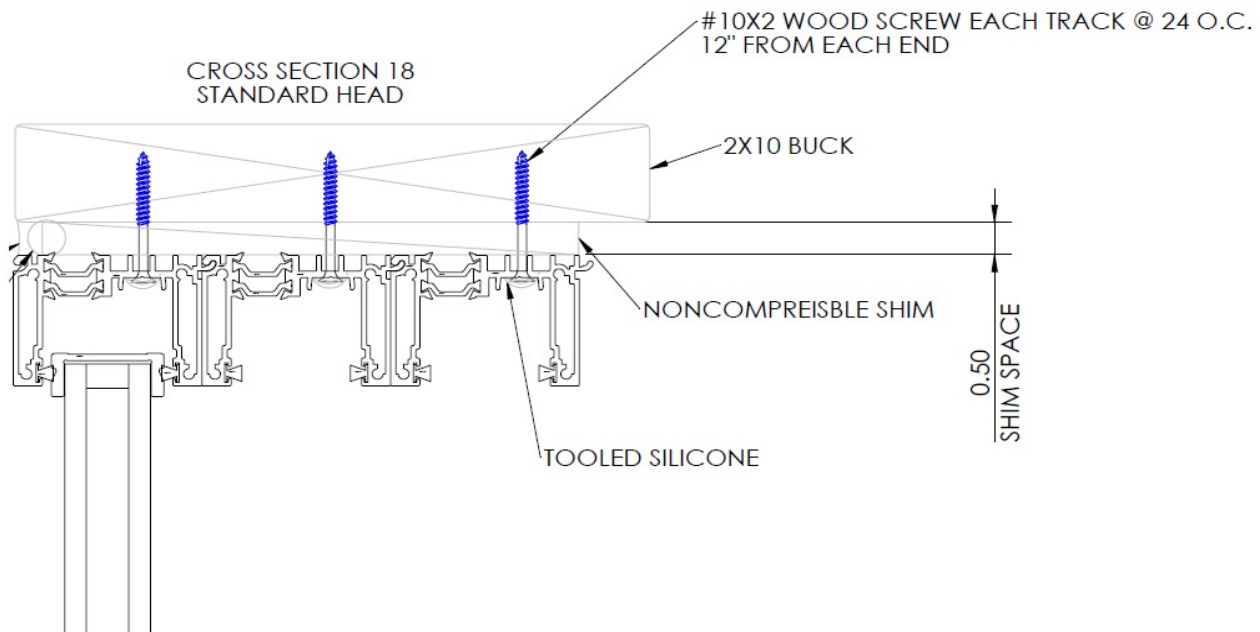

Figure 1
- Frame Head: Holes should be drilled 12" from each end and every 24" on center per track. (See Figure 1).